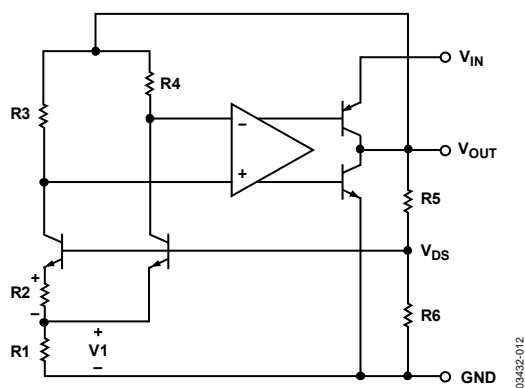

Figure 12. Simplified Schematic
The ADR370 uses the band gap concept to produce a stable, low temperature coefficient voltage reference suitable for high accuracy data acquisition components and systems. This device makes use of the underlying temperature characteristics of a silicon transistor's base-emitter voltage (V_{BE}) in the forward-biased operating region. Under this condition, all such transistors have a $-2 \text{ mV}/^\circ\text{C}$ temperature coefficient (TC) and a V_{BE} that, when extrapolated to absolute zero, 0 K, (with collector current proportional to absolute temperature), approximate the silicon band gap voltage. By summing a voltage that has an equal and opposite temperature coefficient of $2 \text{ mV}/^\circ\text{C}$ with a V_{BE} of a forward-biased transistor, an almost zero TC reference can be developed. The simplified circuit diagram in Figure 12 shows how a compensating voltage, V_1 , is achieved by driving two transistors at different current densities and amplifying the resulting V_{BE} difference (ΔV_{BE} , which has a positive TC). The sum (V_{BG}) of V_{BE} and V_1 is then buffered and amplified to produce a stable reference voltage of 2.048 V at the output.